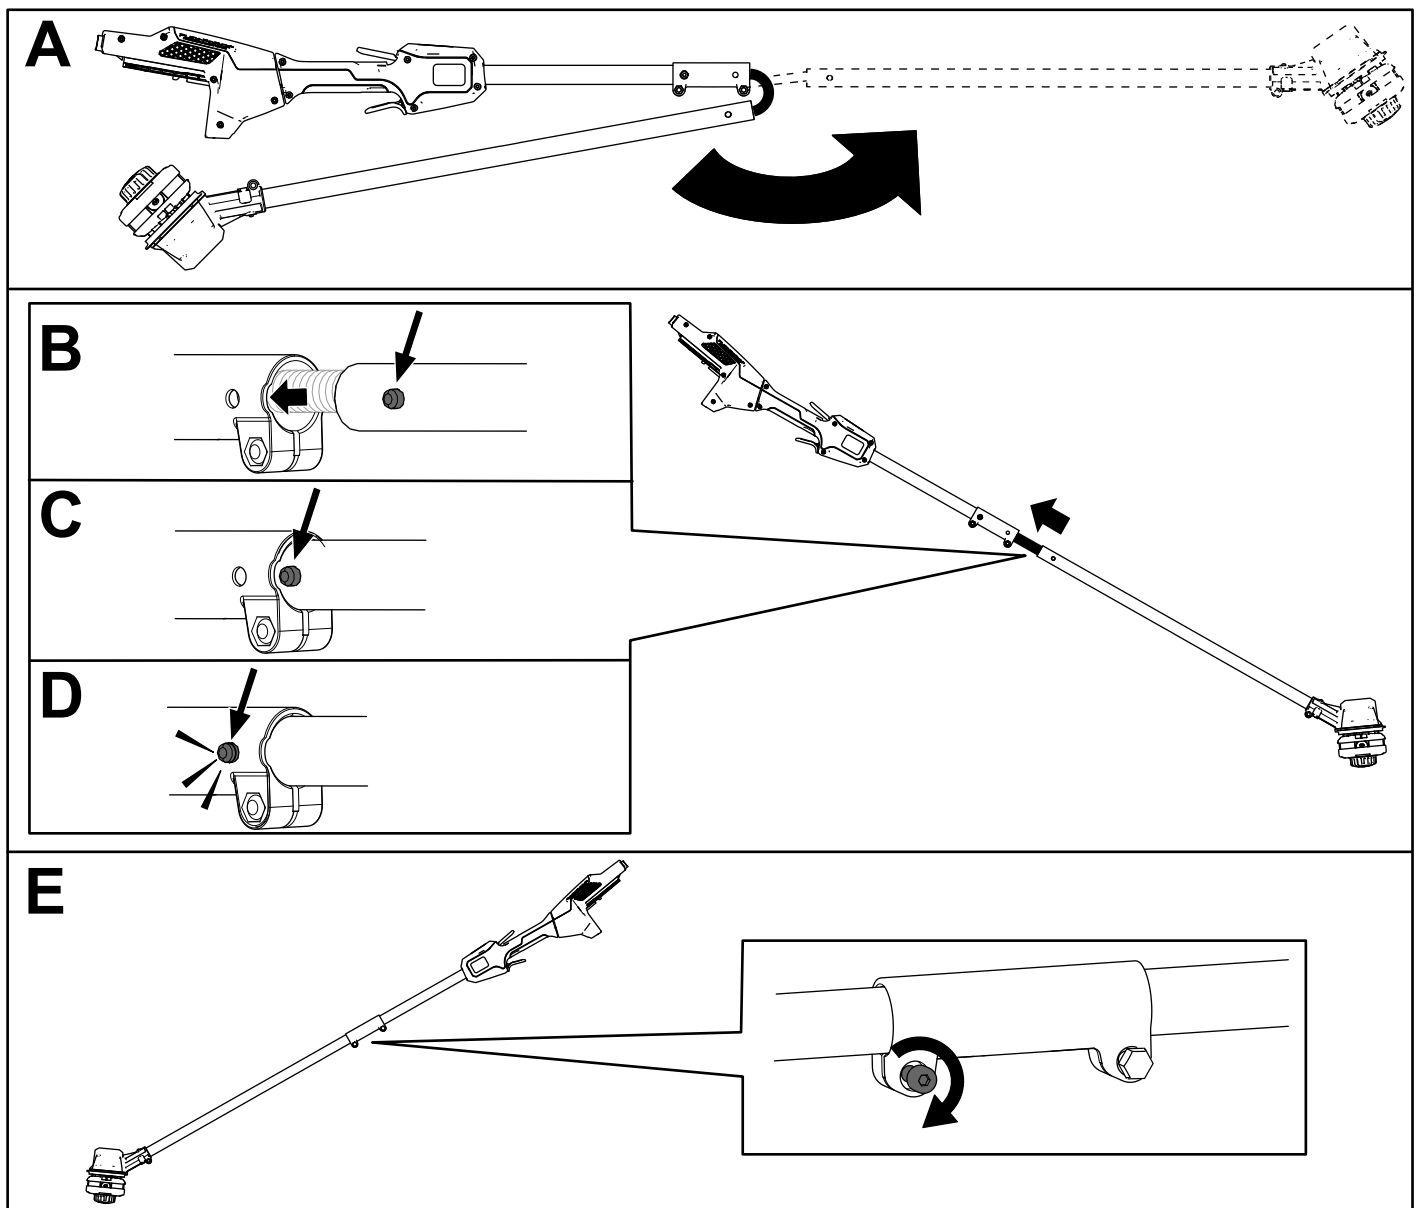

Figure 2
1. Unfold the handle (A of Figure 2).
2. Align the locking button on the lower shaft with the slotted hole on the upper shaft and slide the 2 shafts together (B and C of Figure 2).
Note: The locking button clicks into the slotted hole when the shafts are secured (D of Figure 2).
3. Tighten the screw on the shaft connector (E of Figure 2).